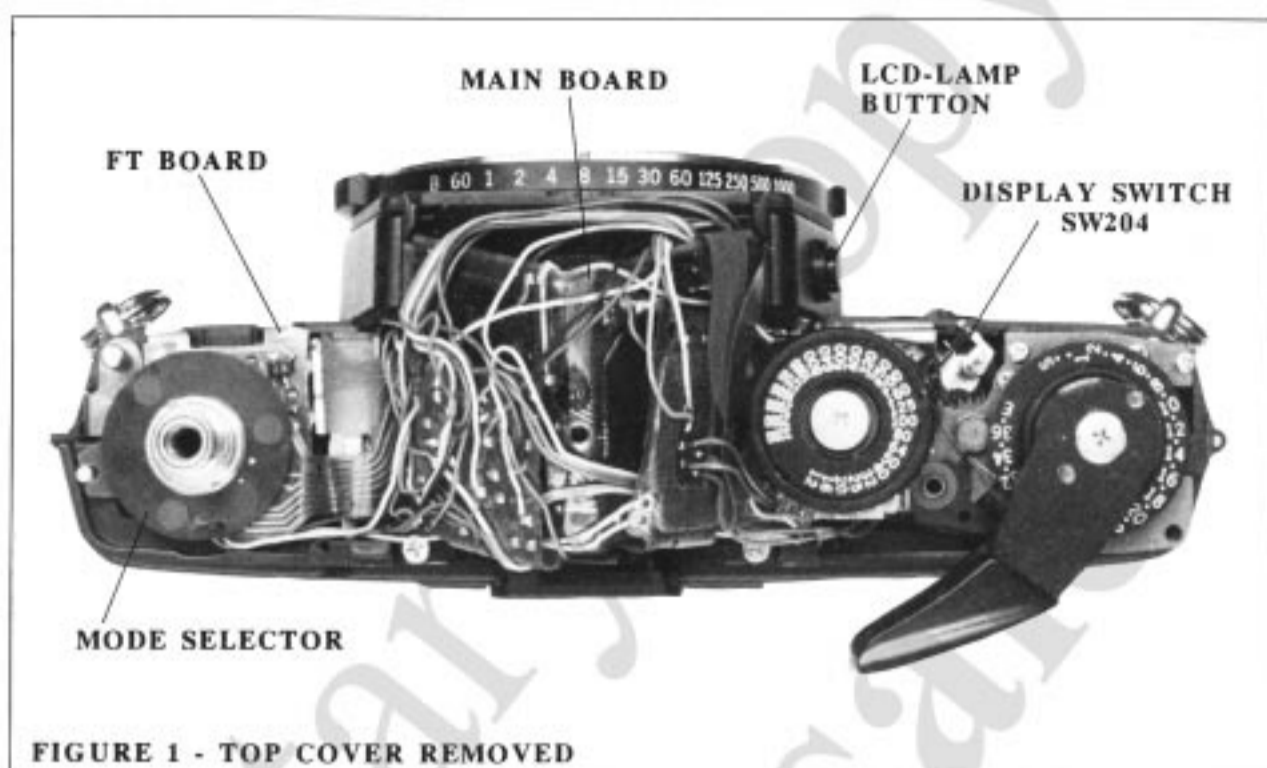
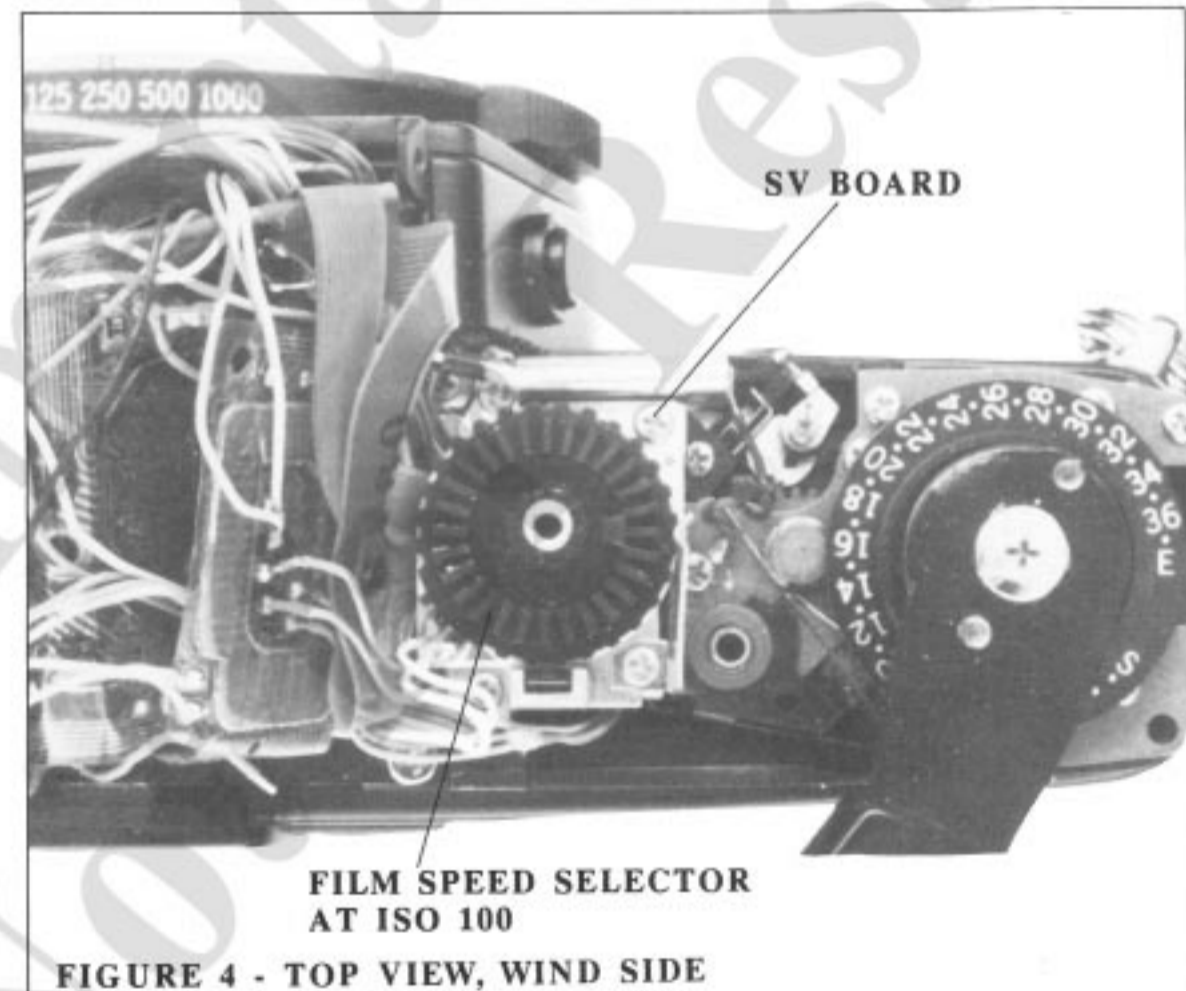

FIGURE 1 - TOP COVER REMOVED
FIGURE 4 - TOP VIEW, WIND SIDE
- Fig. 1 -- top cover removed
- Fig. 4 -- top view, wind side
Note: With the top cover removed, set the mode using the letter symbols on the mode selector, Fig. 1; align the appropriate bar on the mode selector with the positioning screw. Set ISO 100 by aligning the square post on the film-speed selector with the detent, Fig. 4.
2. Before each measurement, turn the power supply off and then on to reset the circuit. Or, if the mode selector is still installed, Fig. 1, momentarily set the battery-test position. As you move the mode selector to battery test, the reset switch closes.
- a. settings -- ISO 100, Fig. 4
- a. settings -- ISO 3200 (SV selector, Fig. 4, fully clockwise)